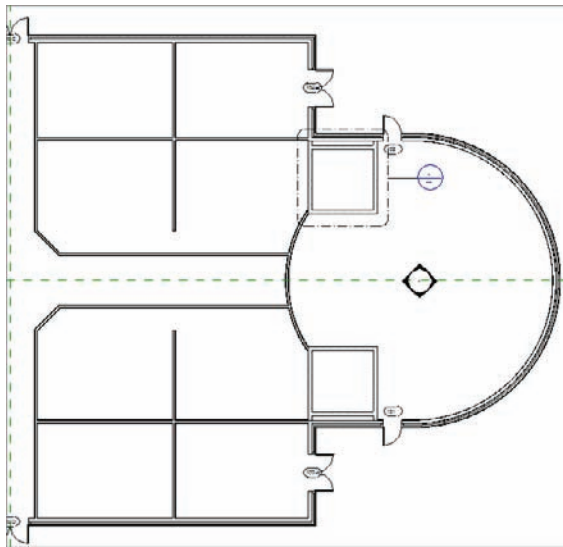

FIGURE 4.5 The two walls copied, segmenting the spaces north and south of the corridor
7. Mirror the two walls to the south side of the corridor, as shown in Figure 4.5. You will see that the ends of the walls do not meet. This is fine—you will modify these walls with the Trim command in a moment.